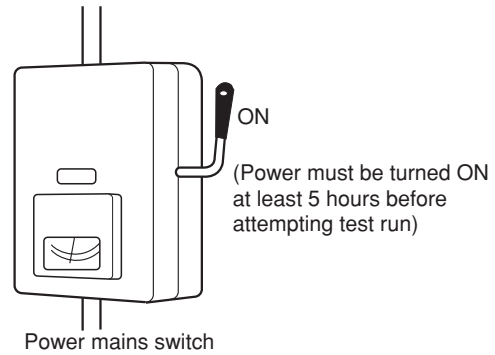

Fig. 10-1
- (1) All loose matter is removed from the cabinet especially steel filings, bits of wire, and clips.
- (2) The control wiring is correctly connected and all electrical connections are tight.
- (3) The protective spacers for the compressor used for transportation have been removed. If not, remove them now.
- (4) The transportation pads for the indoor fan have been removed. If not, remove them now.
- (5) The power has been supplied to the unit for at least 5 hours before starting the compressor. The bottom of the compressor should be warm to the touch and the crankcase heater around the feet of the compressor should be hot to the touch. (Fig. 10-1)